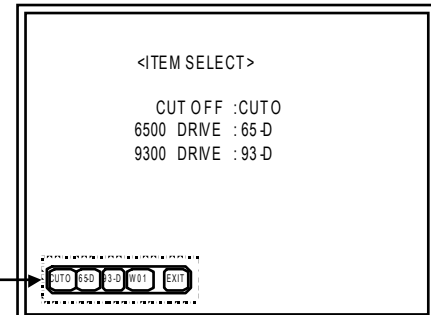

Fig.8
- ① In the <BLOCK SELECT> screen, press the **CONTRAST/BRIGHT** key.
- ② Then WHITE BALANCE menu screen is displayed (Fig. 8).
- ③ In this case, key function is replaced as shown below. There are several modes of WHITE BALANCE adjustment. Select the various WHITE BALANCE mode from this menu screen.
- ④ Press the **MENU** key few times, then exit from the WHITE BALANCE BLOCK screen to return to the <BLOCK SELECT> screen.